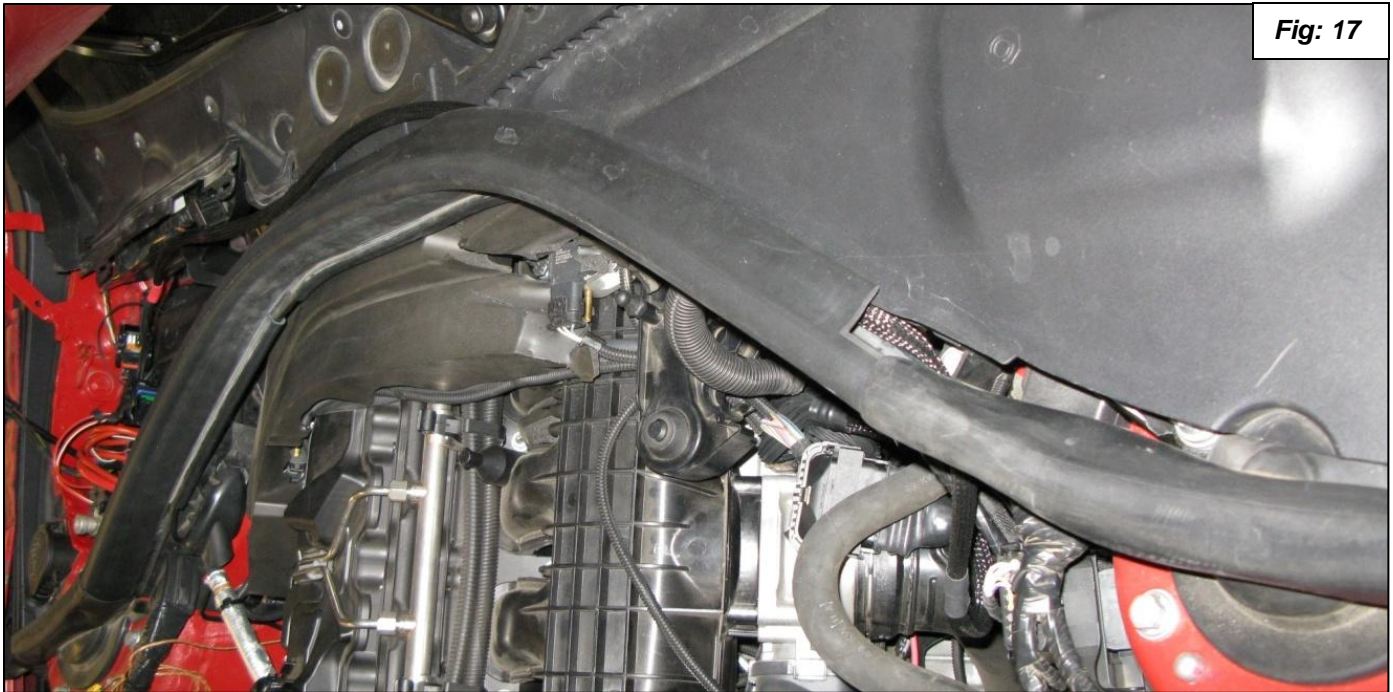

Fig: 17
15. Pull the DPT Harness around and run it under the cowl seal as shown in figure 17. Fix the rubber seal back over the cowl seal.